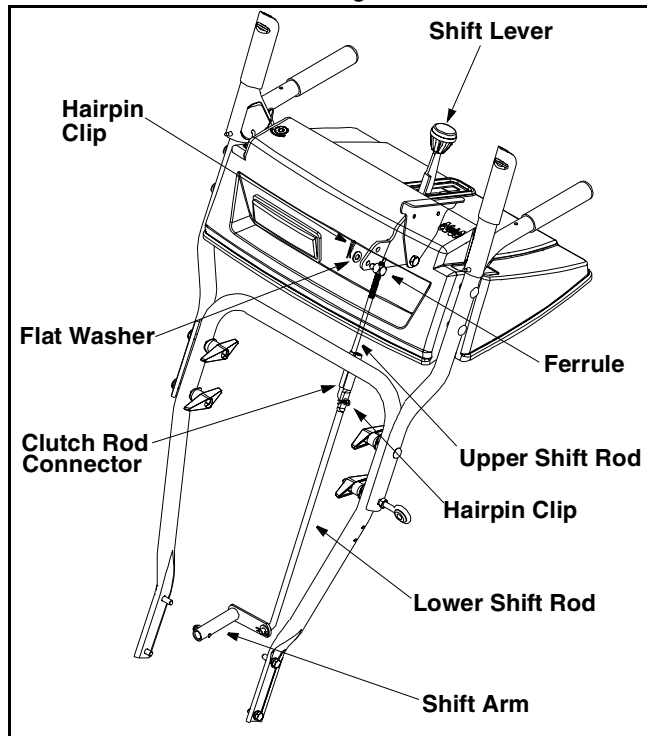

Figure 10
- Remove the hairpin clip and slide the shift rod connector up, to separate the upper shift rod from the lower shift rod. See Figure 10.